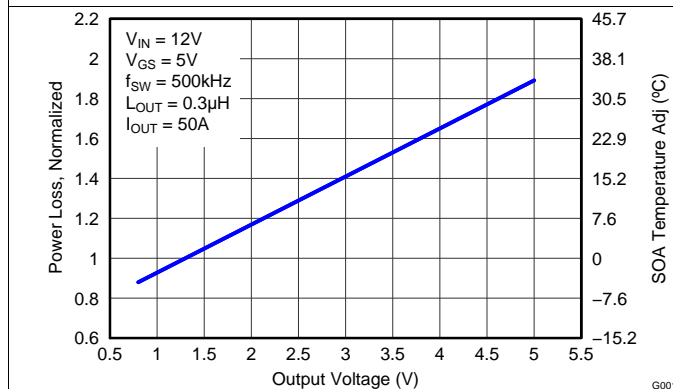

Figure 9. Normalized Power Loss vs Output Voltage
- Normalized power loss for output voltage  $\approx 0.90$  (Figure 9)
- SOA adjustment for output voltage  $\approx -2.5^\circ\text{C}$  (Figure 9)